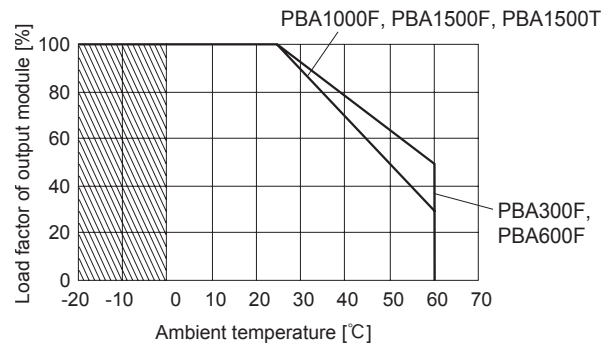

Fig.7.4 Ambient temperature derating curve (-F4)
- Differences from standard versions are summarized in Fig.7.4.